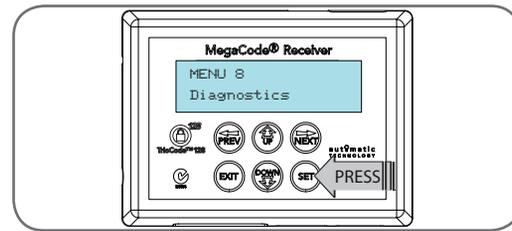

Fig C.1
- Press PREV to navigate to Menu 8 (**Fig. C.1**).